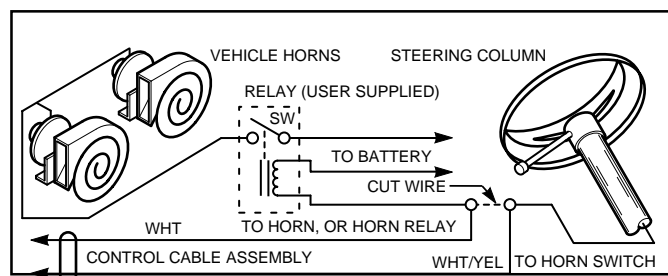

Figure 3-7. Horn Ring Connections. 290A4023-09
b. See figure 3-7. Splice the white/yellow power cable wire to the horn ring side of the wire that was cut in step a. Insulate the splice with the wire nuts (supplied).
d. Obtain a SPST relay of sufficient contact current capacity to activate the vehicle horn. Refer to figure 3-7 while performing the following steps.